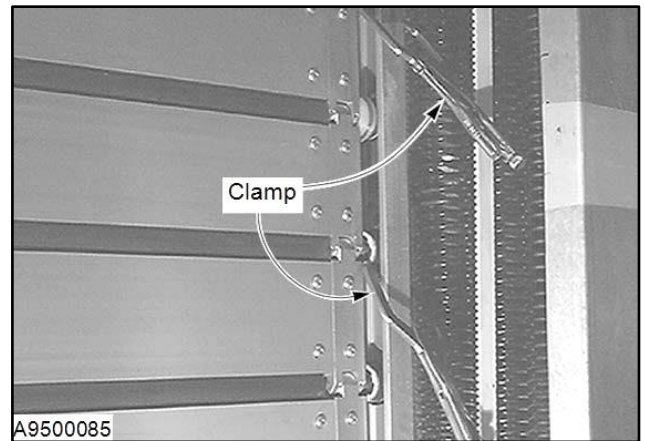

Figure 62
4. Place clamps across the exposed door track to secure the door and prevent it from accidentally falling once belt tension is released. (See Figure 62)